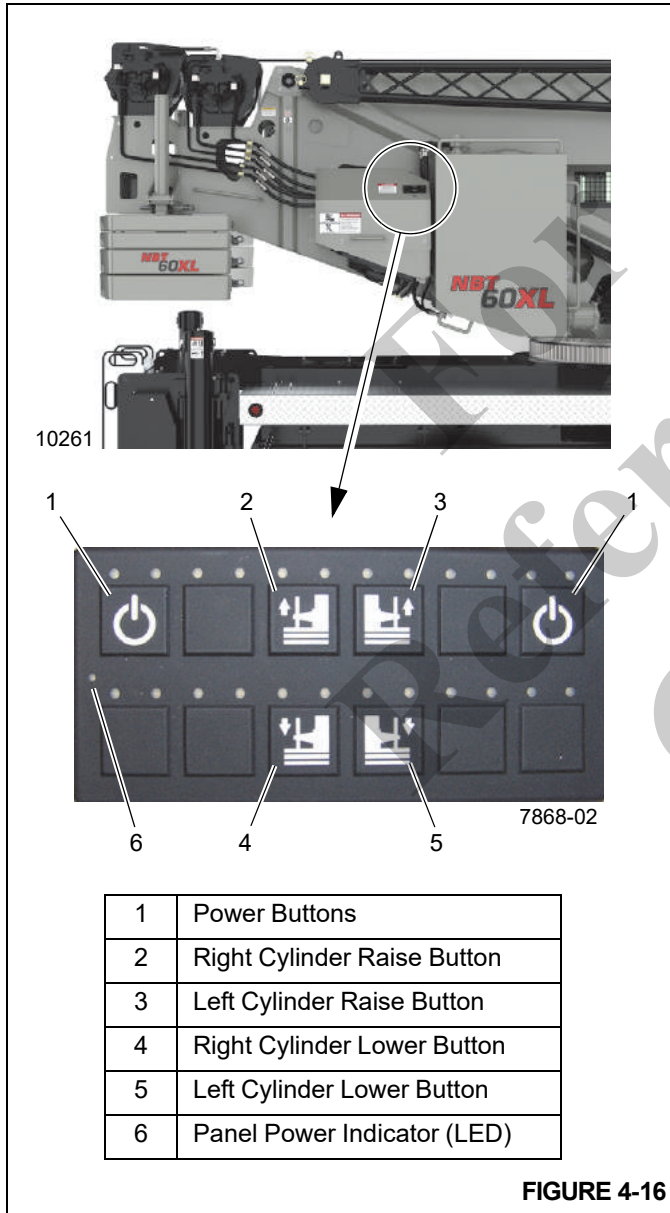

FIGURE 4-16
Figure 4-16 shows the counterweight control panel. A control panel is located on each side of the superstructure. The
control panels function only if the Crane Function Power Switch is turned off, an armrest is in the up position, or there is no one sitting in the crane cab operator's seat. A green LED (6, Figure 4-16) on the left side of the control panel illuminate to indicate the control panel is operational.
To initiate the function, press and hold the power button (1), then the counterweight raise or lower button (4, 5, Figure 4-16). If a counterweight removal cylinder raise or lower button (4, 5, Figure 4-16) is pressed without first pressing and holding a Power Button (1, Figure 4-16), a red LED above that button will flash.
8. Using the counterweight control panel (Figure 4-16) located on either side of the superstructure, lower the
7. Using counterweight switch panel (Figure 4-16) located on either side of the turntable, slightly raise the counterweight removal cylinders. For more information, see *Raising the Counterweight Cylinders*, page 4-24.
9. Using the counterweight switch panel (Figure 4-16), fully lower the counterweight removal cylinders. For more information, see *Lowering the Counterweight Cylinders*, page 4-24.
9. Using counterweight control panel (Figure 4-16) located on either side of superstructure, lower the counterweight removal cylinders. For more information, see *Lowering the Counterweight Cylinders*, page 4-24.
11. Using the counterweight control panel (Figure 4-16), fully raise counterweight removal cylinders. For more information, see *Raising the Counterweight Cylinders*, page 4-24.